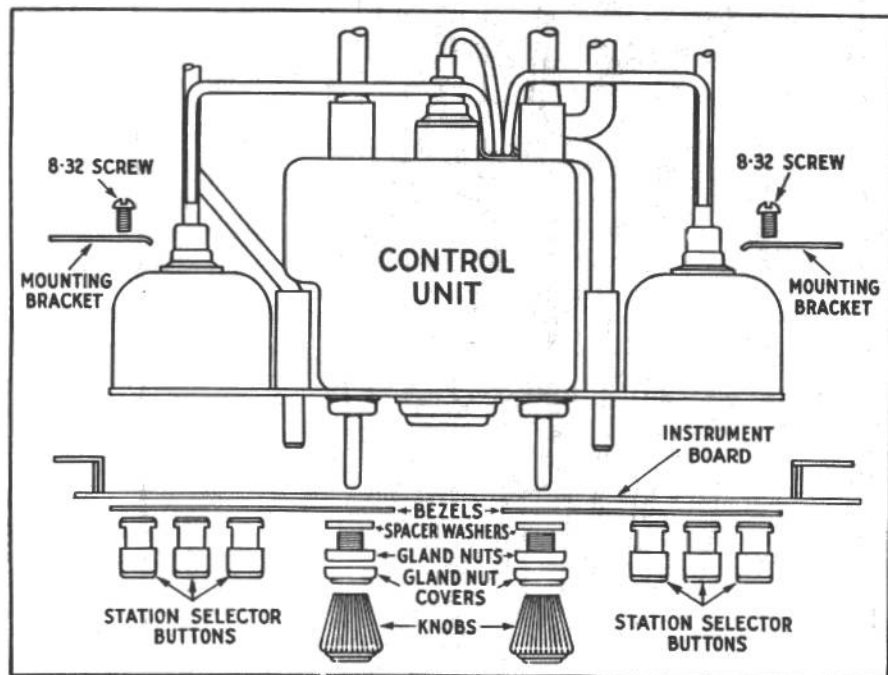

FIGURE 3
2. Remove the cover plate located between the chrome bars in the center of the instrument board, by pushing it out from the rear. Remove the two screws which hold the center portion of the instrument board in place (See Figure 3). Loosely assemble the two mounting brackets at these points, using the 8-32 screws supplied in the package.
4. Place the control head in position from the rear of the instrument board. Secure it with two gland nuts (See Figure 3) placing the washer spacers over the control shafts before installing.